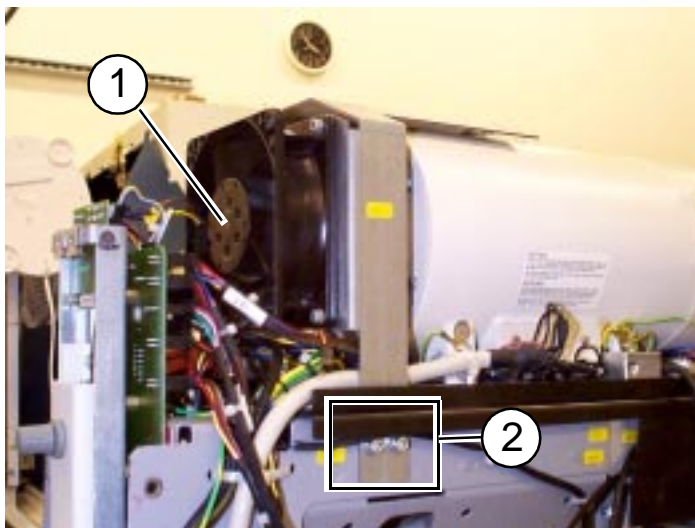

Fig. 1
2. Disconnect the fan cables (see Fig. 1, pos.1).
3. Remove the fan with the bracket (see Fig. 1, pos.2).